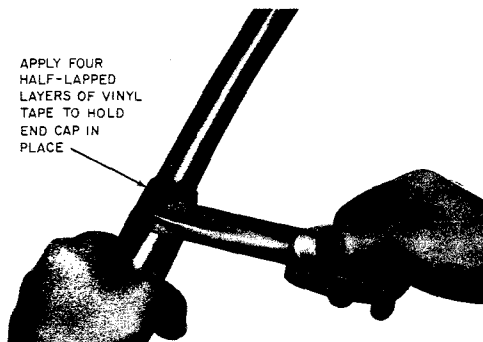

Fig. 11—Tapping End Cap in Place
- (h) Secure the E Plastic Cap to the sheath using four half-lapped layers of vinyl tape (Fig. 11). Start taping below the top of the cap, and continue over the cable sheath.